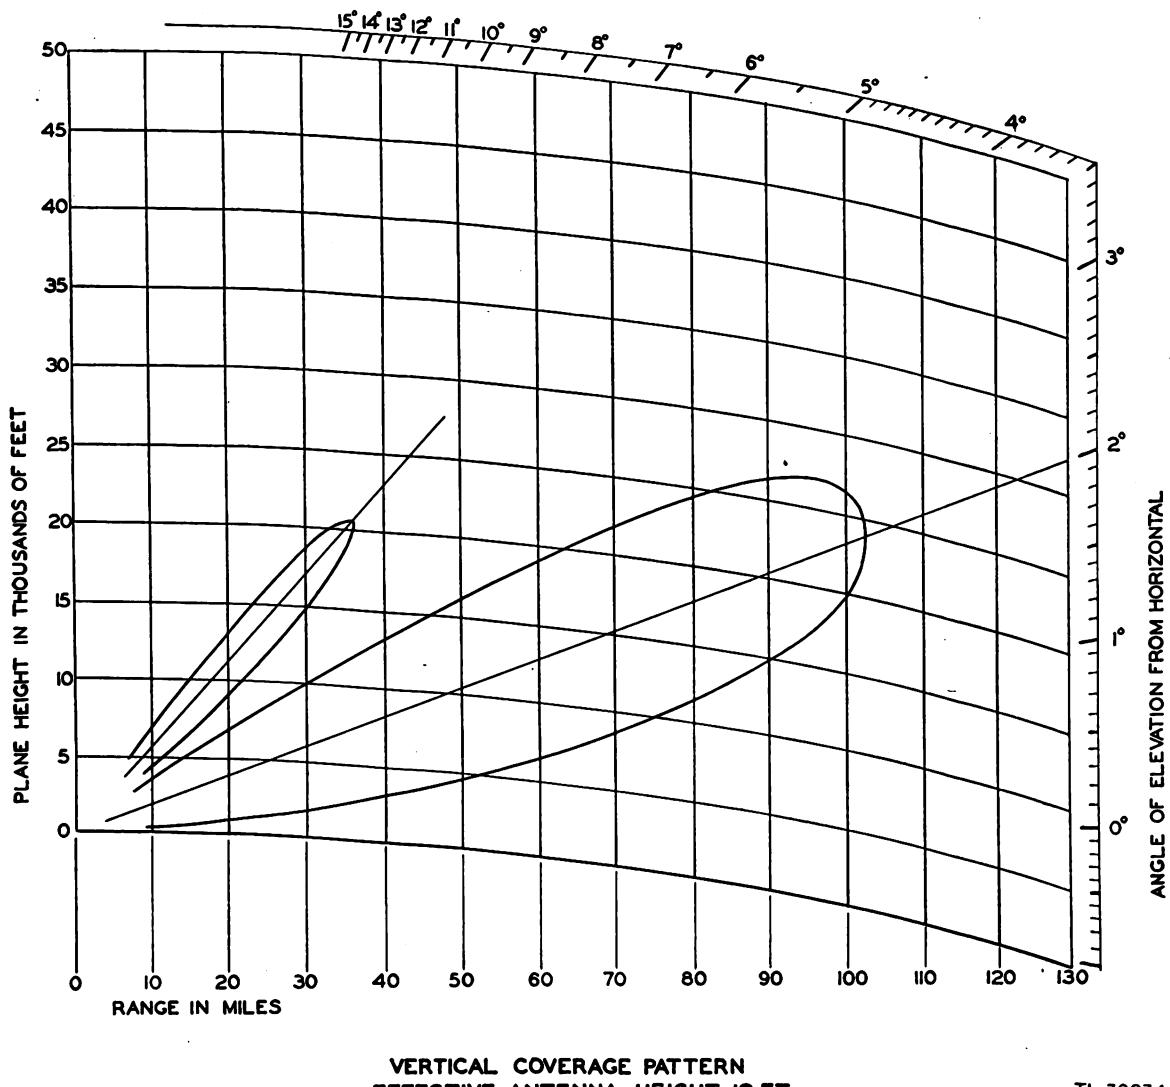

Figure 17. Antenna vertical coverage pattern, 12 foot site.
d. **Antenna Height.** (1) With the effective height equal to 12 feet, the main lobe makes an angle of  $2^\circ$  with the horizontal. Figure 17 indicates that in this case, a plane flying in at 20,000 feet should first be picked up at 100 miles; a plane flying in at